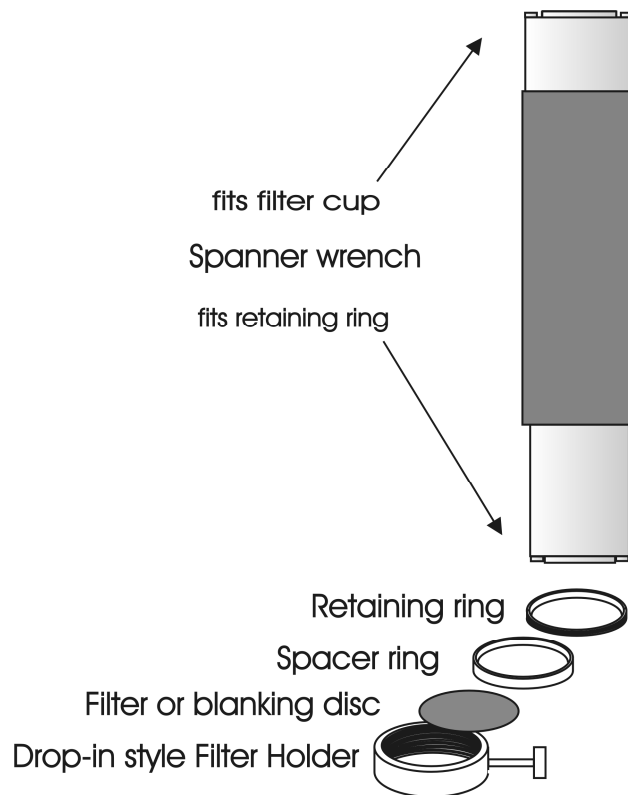

Figure 2-4. Filter holder components.
There are at least two components installed into each filter cup or holder before the Lambda 10-3 is shipped: a threaded retaining ring to secure the filter into the cup (or holder), and a spacer ring. In all but one of the filter cups, and in one of the filter holders, there will also be a blanking disc. Figure 2-4 depicts these items using the drop-in filter holder as an example.
- **Retaining Ring.** This ring is threaded on its outside surface and has two slots on its top edge. The purpose of the two slots is for the removal and installation of the retaining ring when using the retaining ring driver or spanner wrench that is provided with the Lambda 10-3 (shown in Figure 2-4). Note how the design of the spanner wrench differs between 25, 32, and 50 mm filter sizes.